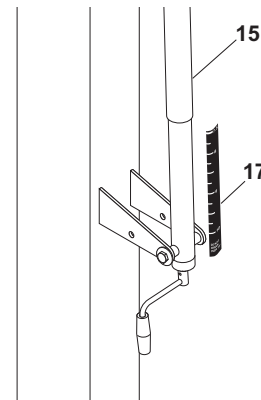

Figure 12
20. Adjust unit to lowest position. Use a tape measure to measure from the top of the rim to the playing surface. Stick Height Decal (#17) to back of Actuator (#16) with the measured height mark aligned with bottom of Actuator Sleeve (#15). See Figure 12.